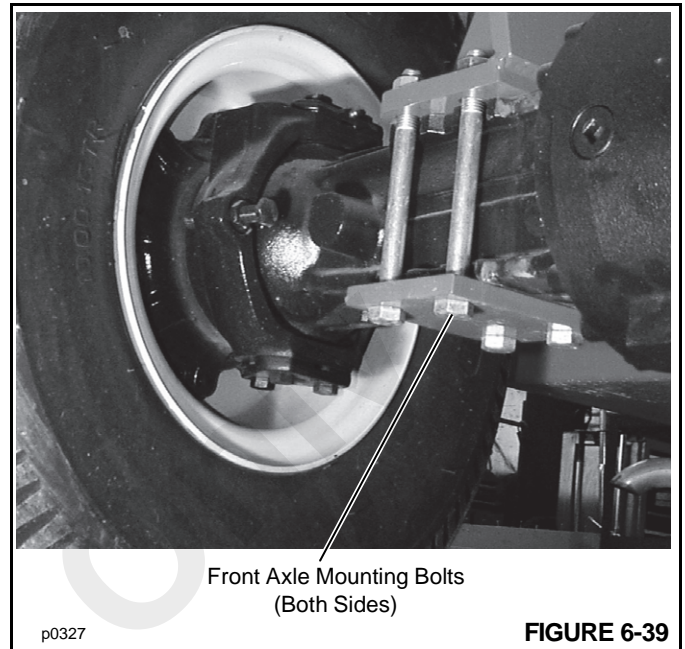

FIGURE 6-39
Torque the 3/4" axle mounting bolts (8) to 362 Nm (266 lb-ft). Refer to Figure 6-39.